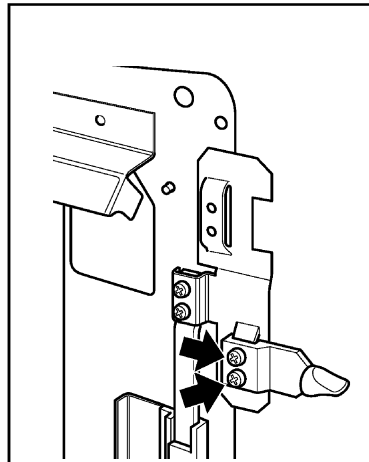

Figure 44. Control button removal
2. Detach the slide button by removing two screws (See figure 44).